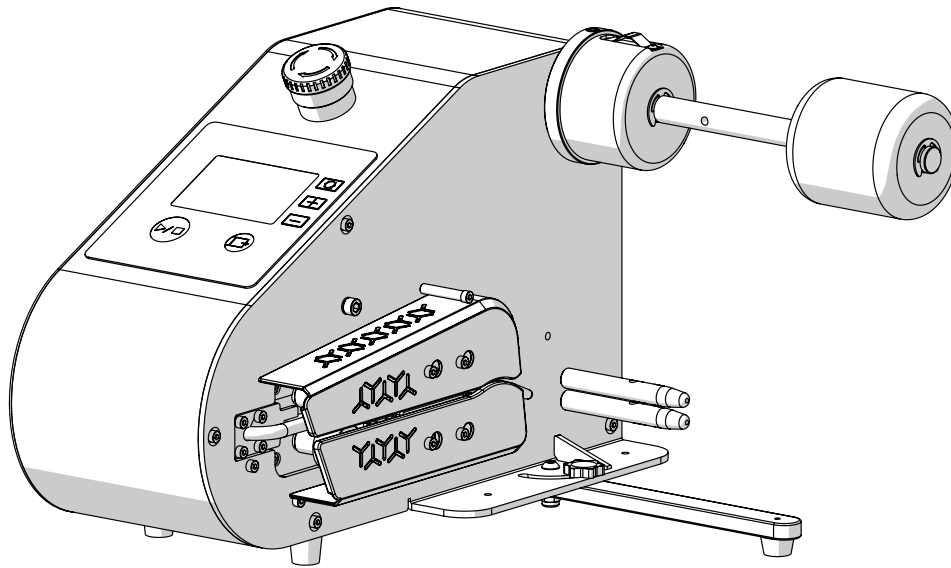

Figure 9: IPG AirSpace 3 Pro® for BoD
8. Use the "Film Jog" button (Figure 9) by pressing and holding, to advance the film through the belts of the **Machine**.